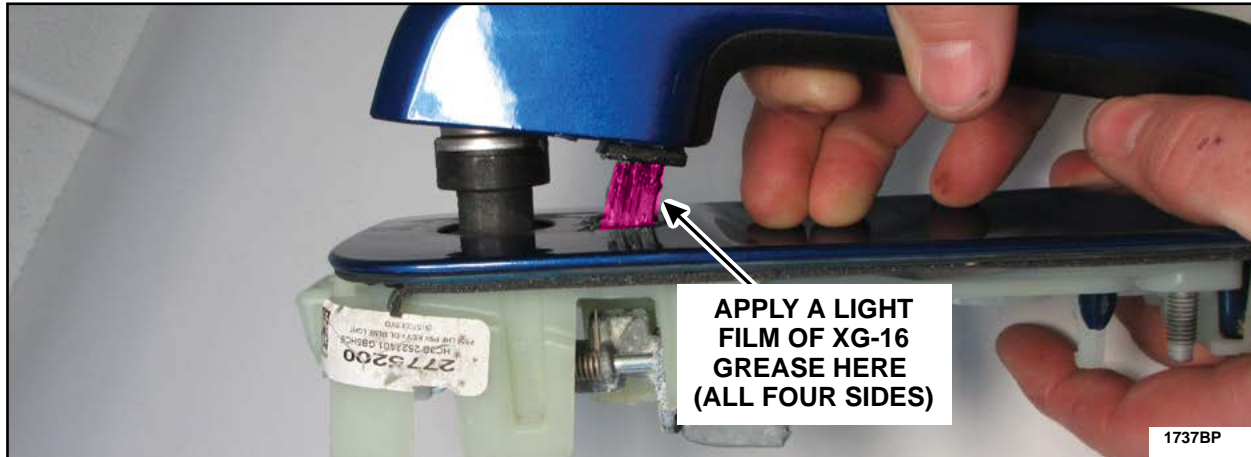

FIGURE 94
22. Using a clean shop cloth and isopropyl alcohol, clean the handle plunger then, using a brush, apply a light film of Motorcraft® XG-16 low temperature grease to all four sides of the exterior door handle plunger and to the mechanisms in the areas shown in Figures 94 and 95.